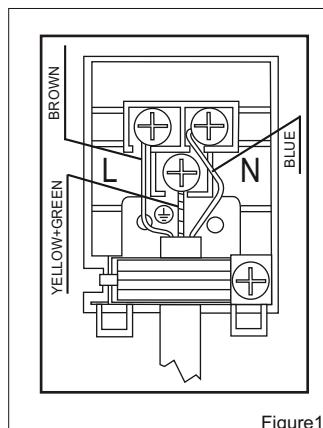

Figure1
- The earthing cable must be connected via the screw with the earthing mark. Supply cable connection must be as shown in Figure 1. If there is no earthed outlet conforming to regulations in the installation environment, call the Authorized Service immediately. There is to install an all pole disconnector inside they supply circuit with a contact opening of at least 3mm (rated 16A).